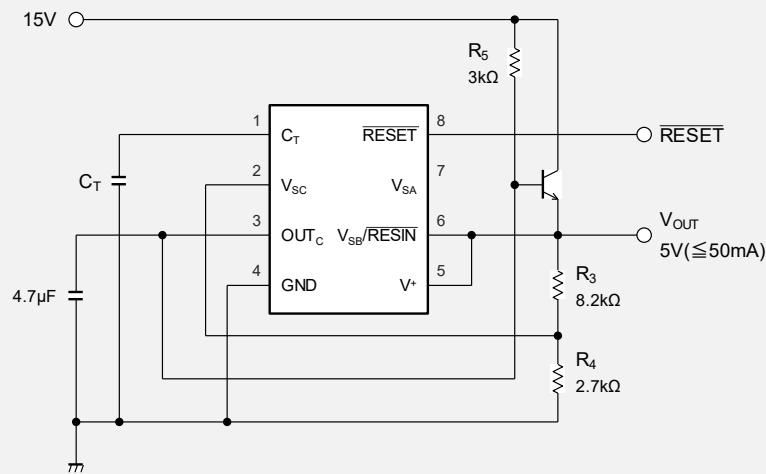

Fig. 12-1 Reference Voltage output and Voltage drop monitoring (e.g. 5V output, 5V monitoring)
- The reference voltage V_{OUT} is calculated as following formula. In case of resistor value In Fig.12-1, the reference voltage V_{OUT} is about 5.0V
5V Reference voltage V_{OUT} is generated by $V_{SC}(\text{COMP_C})$ and feedback resistors R_2 , R_3 , and its 5V is monitored by $V_{SA}(\text{COMP_A})$. Unlike Fig.12-1, 5V output cannot supply large current.